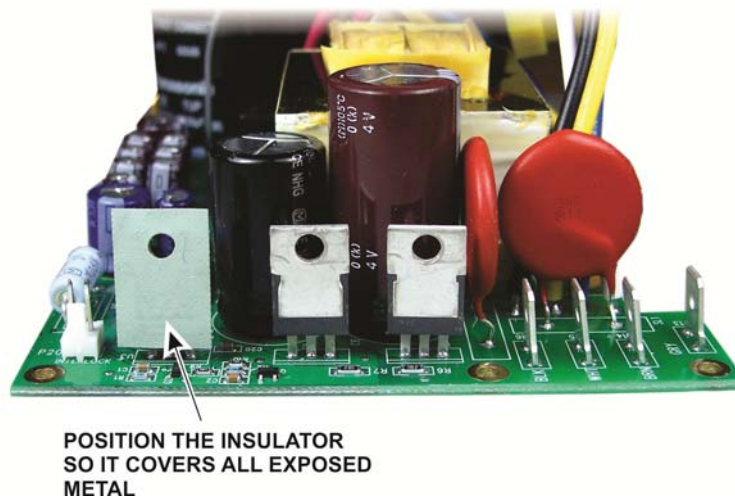

Figure 8. Thermal Insulator Mounted on U3.
- Remove the paper backing from the thermal insulator and carefully place it on U3 so that it completely covers all the exposed metal as shown in Figure 8. The other two I.C.s do not need insulators.